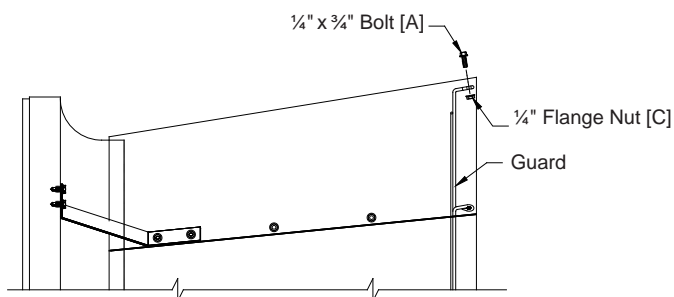

Figure 14
Insert guard into cone with the guard eyelets facing you. Make sure each eyelet lines up with a hole in the cone sections, and install with (6) Bolts [A] and Nuts [C]. See Figure 14. Assembly is now complete.